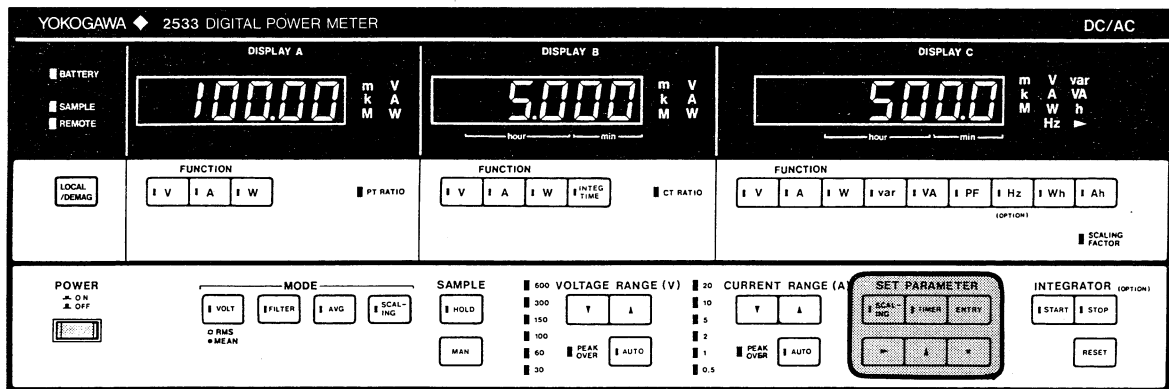

Figure 2-16.
Measured voltage, current and power multiplied by a scaling factor can be displayed. When measuring an input beyond the measurement range, an external potential transformer (PT) or current transformer (CT) is used. This function provides a direct reading in terms of the primary side value. Power scaling (SCALING FACTOR) can be converted to calorie (CAL) or other physical quantities conveniently. When scaling, parameter setting keys in the shaded area of Figure 2-16 are used.